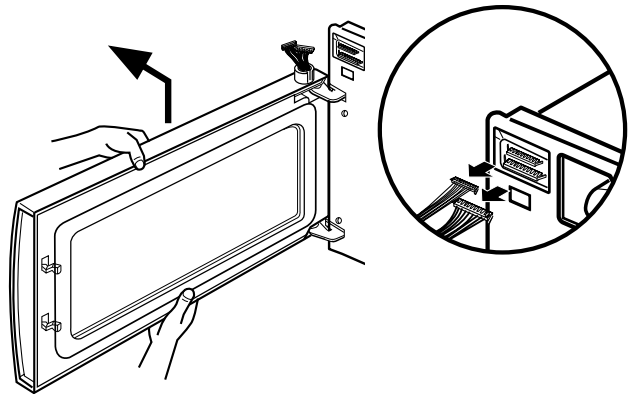

Figure 18
G. REMOVING DOOR (Figure 18)
- (1) Remove the vent grille by two screws securing it to the outcase loosening.
- (2) Disconnect two leadwires.
- (3) Lift up and draw the door.